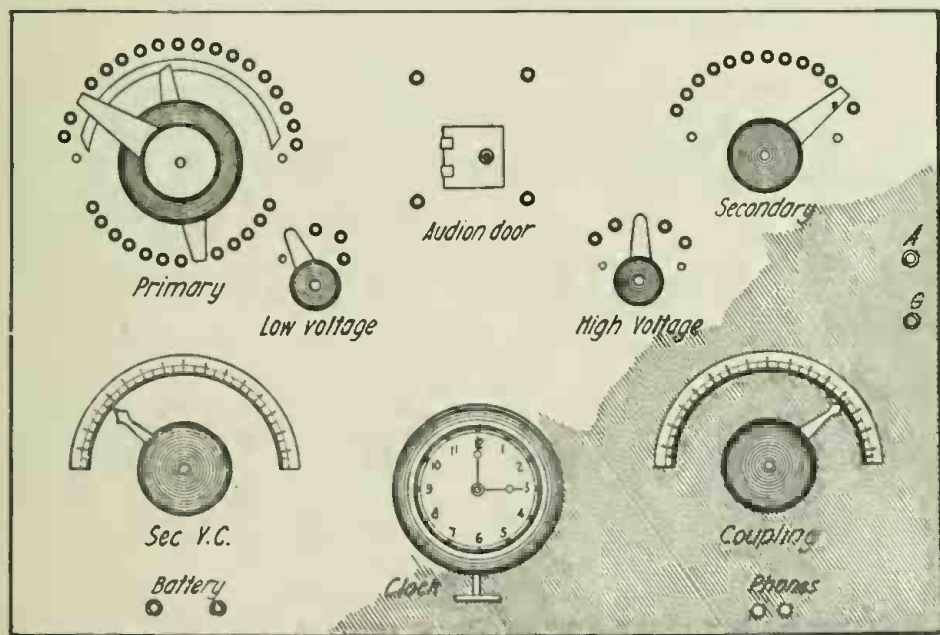

Fig. 1
The box "B" in Fig. 1 is made from wood, the joints of which should be made as tight fitting as possible. It is more than likely that it will leak at first but the oil will soon swell the joints and prevent this.
1. The hole "U" is drilled about $\frac{3}{8}$ the length of the arm from the hole "D." At "C" a thread is tapt to admit threaded rod "L," which is $\frac{1}{8}$ or $\frac{3}{32}$ inches in diameter, depending upon the type of handle used. The hole "E" is drilled and small screw-eyes soldered in as in Fig. 1. "R" is fastened to switch-board "H" by means of the hinge posts "W" which are constructed the same as hinge posts "X," Fig. 2. About $\frac{1}{8}$ inch side play is left, the reason for this will soon be shown.
The binding posts are fastened to box as shown in Fig. 1. The black-shaded portions being oil-soaked leather washers
special attention to both mechanical and electrical efficiency. The panel design is shown in Fig. 1.
If all dimensions are in centimeters the first formula is used, Fig. 1; but if all dimensions are in inches the factor 31.9 is introduced to care for the change in unit.